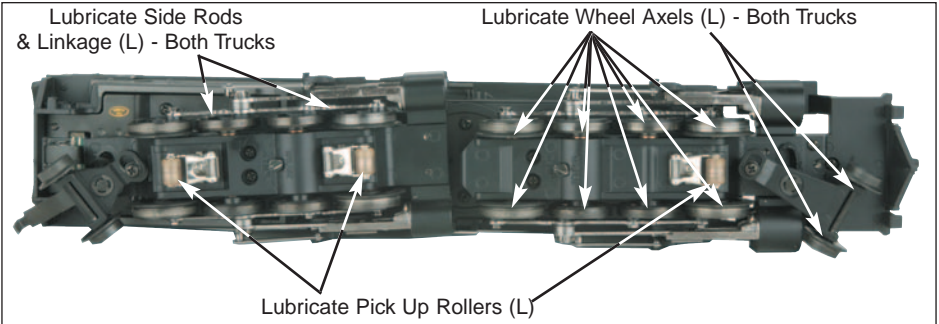

Figure 2 - Lubrication Points on the Engine
- 3.** You should lubricate all side rods and linkage components and pickup rollers to prevent them from squeaking. Use light household oil and follow the lubrication points marked "L" in Fig. 2 on page 10. Do not over oil. Use only a drop or two on each pivot point.
You should regularly lubricate all side rods and linkage components and pick-up rollers to prevent them from squeaking. Use light household oil and follow the lubrication points marked "L" in Figure 2. Do not over oil. Use only a drop or two on each pivot.